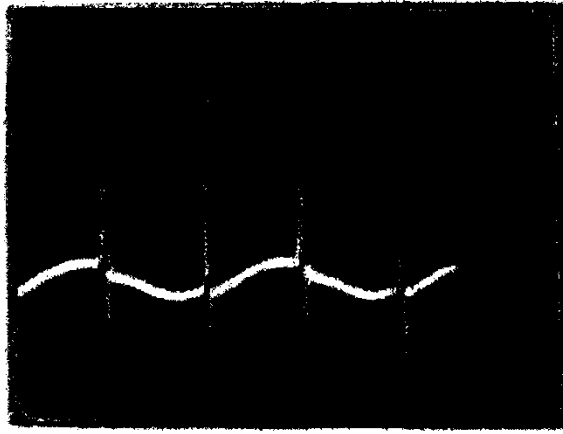

Fig. 6a: Photograph of resonance
- (i) Unit 1: This unit contains a critically adjusted (marginal) radio frequency oscillator in the desired frequency range for ^1H and ^{13}F resonance. A marginal oscillator is required here so that slightest increase in its load decreases the amplitude of oscillations to an appreciable extent. The sample is kept inside the tank coil of unit 2. At resonance i.e. when the frequency of oscillation equal to the Larmor's frequency of the sample, the oscillator amplitude registers a dip due to the absorption of power by the sample. This obviously occurs periodically two times in each complete cycle of modulating field (Helmholtz coil supply voltage). The result is in amplitude modulated carrier (Fig. 6A) which is then detected and amplified by high gain low noise audio frequency amplifier.